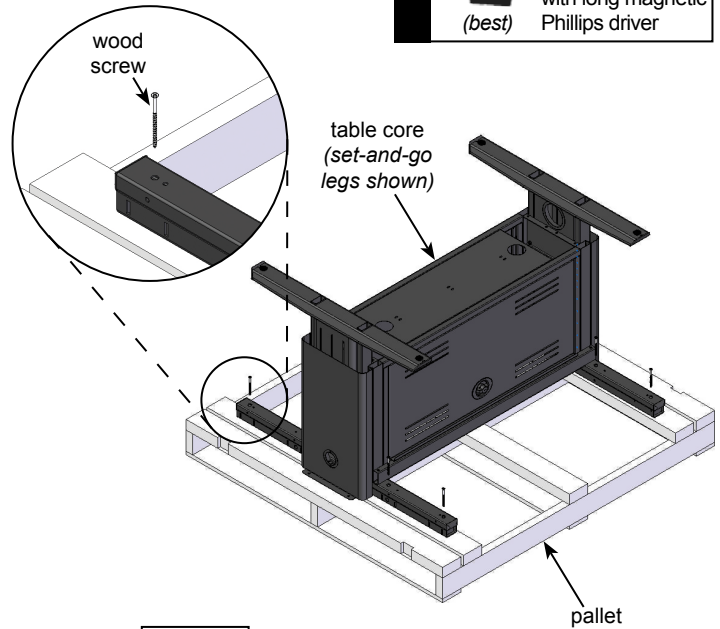

Figure 1B
2. Unscrew the (8) Phillips head wood screws securing the table core to the pallet. **Figure 1B.**